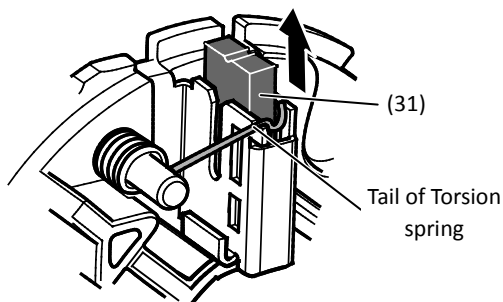

Figure 17
- (1) When assembling Brush holder complete (32) to the drive end of Armature (30), Carbon brush (31) must not be locked with the pressure of Torsion spring. (See Figure 17)
- (2) When assembling a new Brush holder complete, see 6. Assembly of Brush holder complete to Armature.